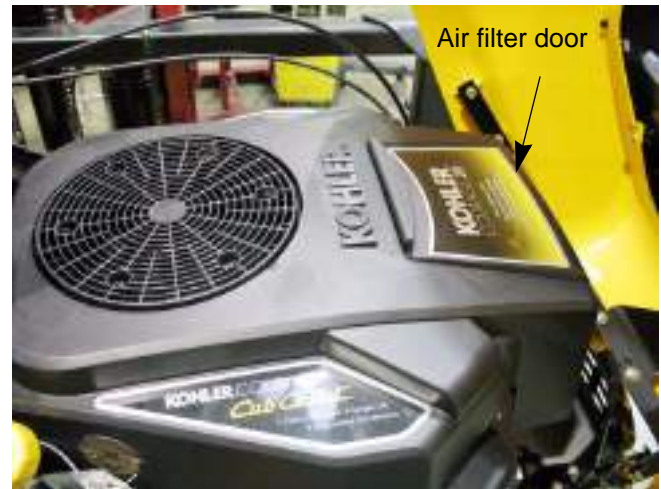

Figure 9.3
1. Swing open the air filter door located at the front of the engine. See Figure 9.3.